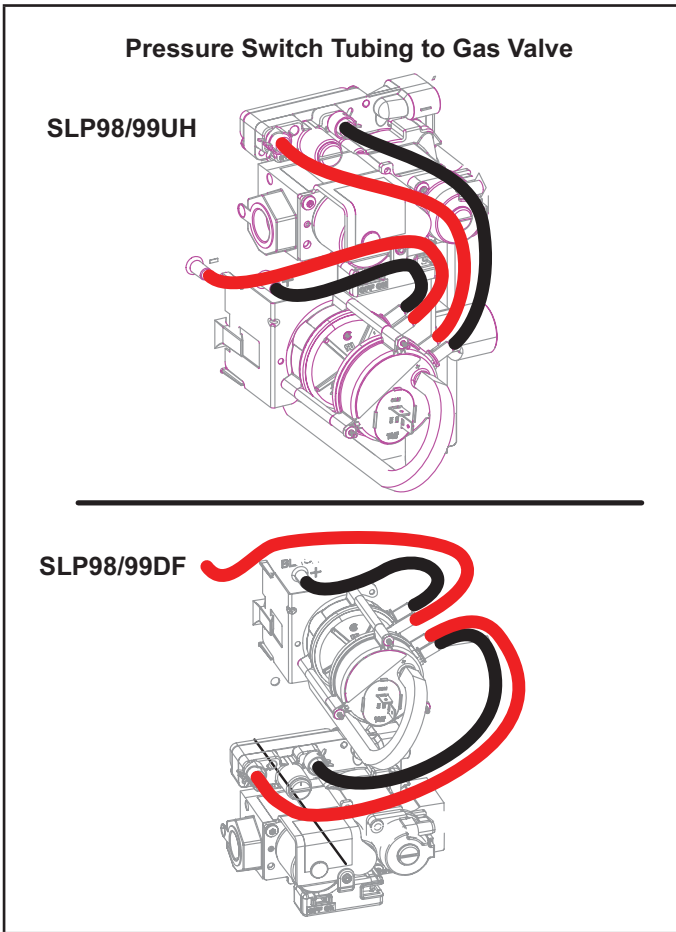

Figure 2
- 10 - Re-install the manifold/gas valve assembly and burner box cover. Pressure switch tubing must be re-connected to proper port on gas valve. See figure 2.